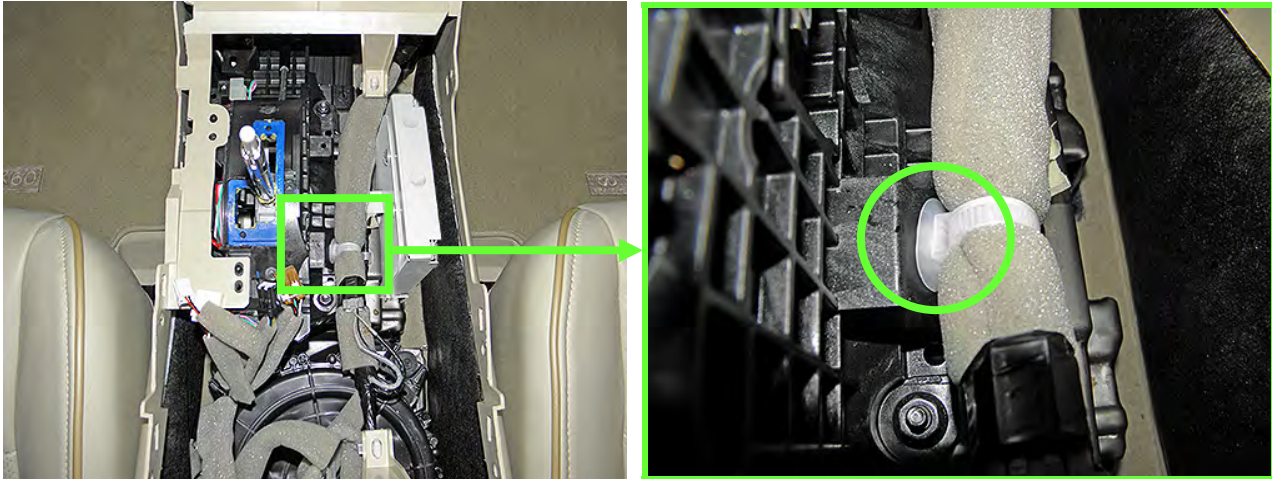

Figure 32B
14. Unclip the harness from the shift selector assembly (Figure 32B).